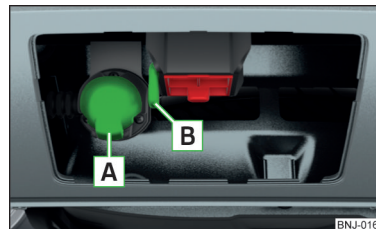

Fig. 162
- Plug the trailer cable into 13-pin socket **[A]** » Fig. 162. (If the trailer / accessories have a 7-pin connector, use a corresponding reduction piece from the ŠKODA Original Accessories).